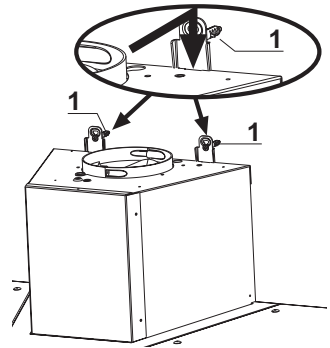

Fig. 9
- a- Hook the canopy onto the two 4.2x44.4mm screws S1 fitted as described above and illustrated in Fig. 9.